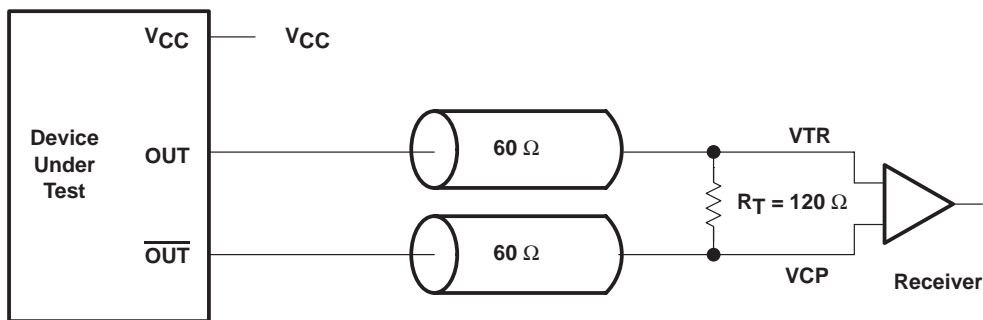

Figure 3. Differential Signal Using Direct Termination Resistor
6. Differential input signal voltage specifies the differential voltage $|V_{TR} - V_{CP}|$ required for switching, where V_{TR} is the true input level and V_{CP} is the complementary input level (see figure 3).
‡ The value of V_{OC} is expected to be |V_{VTR} + V_{VCP}|/2. In case of each clock directly terminated by a 120-Ω resistor, where V_{VTR} is the true input signal voltage and V_{VCP} is the complementary input signal voltage (see Figure 3).
Figure 3 shows the differential clocks are directly terminated by a 120-Ω resistor.